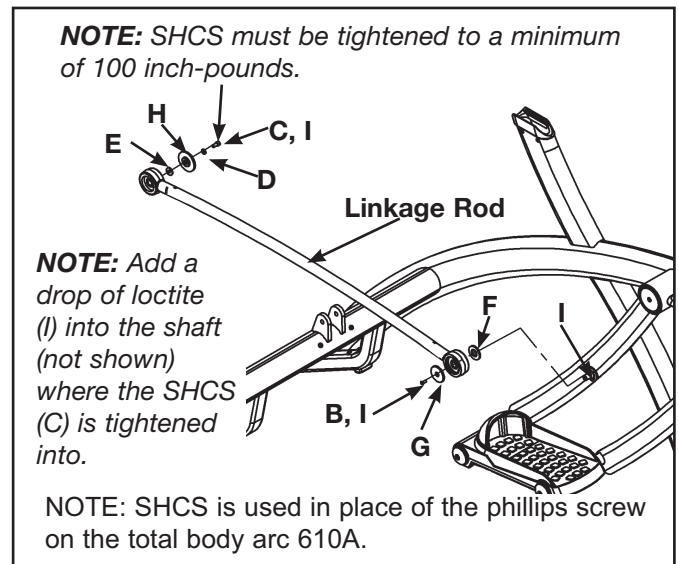

Figure 2 (Right Linkage Rod - User Position)
- A. Turn the main power switch above the power inlet to the off (0) position.
E. Place a drop of loctite (I) on the SHCS (C) and place another drop of loctite (I) into the shaft (where the SHCS will be tightened into).
F. Install the spacer (E), cap (H), flat washer (D) and SHCS (C, I) as shown in Figure 2. Tighten securely.
G. Place a drop of loctite (I) on the Phillips screw (B) and place another drop of loctite (I) on the shaft (where the Phillips screw will be tightened into).
H. Install the Phillips screw (B, I), spacer (G) and the other spacer (F - between linkage rod arm and foot plate arm) as shown in Figure 2.